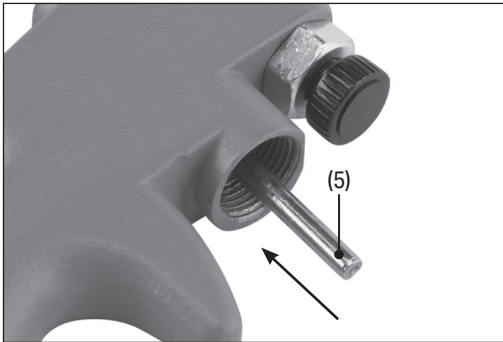

Fig. 5
6. Ensure that the new fluid needle (5) is free from debris and insert it point-first into the needle chamber through the back of the spray gun body (Fig. 5).